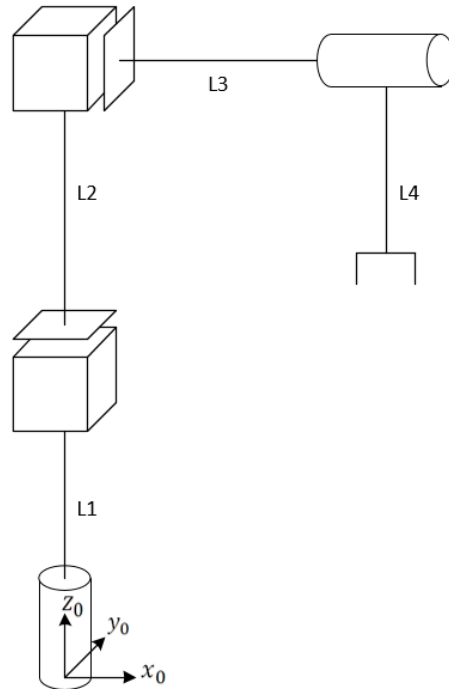

Figure 2: Robot
Figure 2 shows the robot configuration that is being used. In the initial position, shown in Figure 2, the rotational joint is rotating about the  $Z_0$  axis, the first prismatic joint moves along the  $Z_0$  axis and the second prismatic joint moves perpendicular to the  $Z_0$  axis (along  $X_0$ ), the second rotational joint (joint 4) rotates about an axis parallel to  $X_0$  in this initial position.  $L_1$ ,  $L_2$ ,  $L_3$  and  $L_4$  are fixed lengths. The first rotational joint is considered to be in the base of the robot with zero position as shown in the figure.
- (10 %) Assign coordinate frames on the robot in Figure 2 using Denavit-Hartenberg convention. Write the Denavit-Hartenberg parameters in a table.